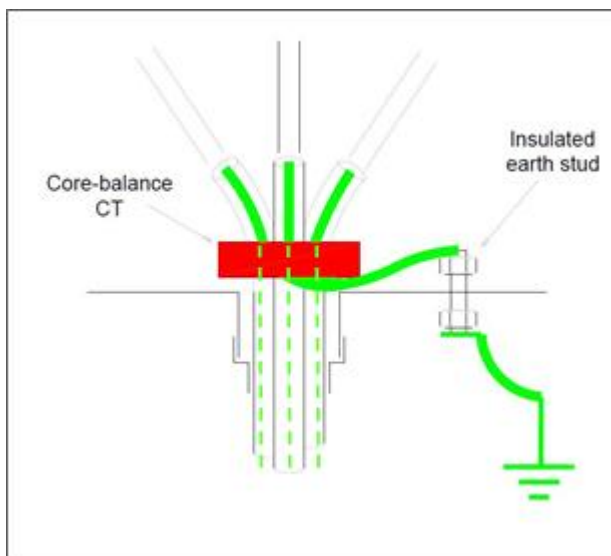

Figure 3.5.1-Triplex Cable, Cable screen and Earth through Internally mounted CT
- 2.6.2. Separate the CT and position it correctly around the cable with reference to figures 3.5.1 – 3.5.4 below. **Note if the cable earth/screen wires pass through the CT as part of the cable collective before they are terminated, then the earth/screen wires must pass back through the CT once more on their own. This is to cancel the current in the screens so the CT measures the earth fault current in the cable cores only.**